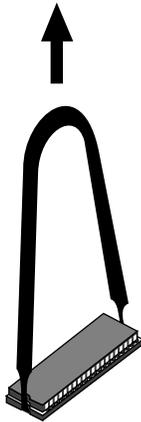

Figure 1-19 Removing the PROM Chip
- You received a chip removal tool—it looks like a pair of huge tweezers. Insert the chip removal tool between the PROM chip and the socket on the board, as shown in Figure 1-19. Work the chip away from the socket in a rocking motion, pulling up on one side of the chip and then on the other side. It may be difficult to loosen it.